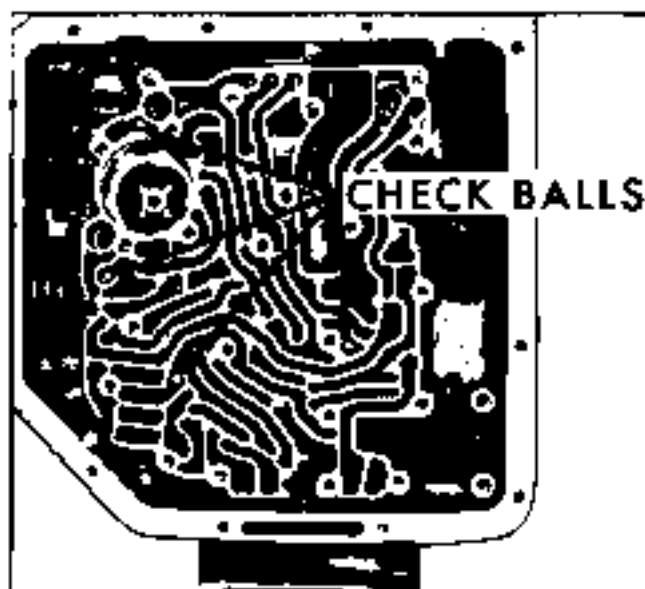

Fig. 7G-16 Location of Check Balls
15. Disconnect parking pawl actuating rod from range selector inner lever and remove both from case (Fig. 7G-20).